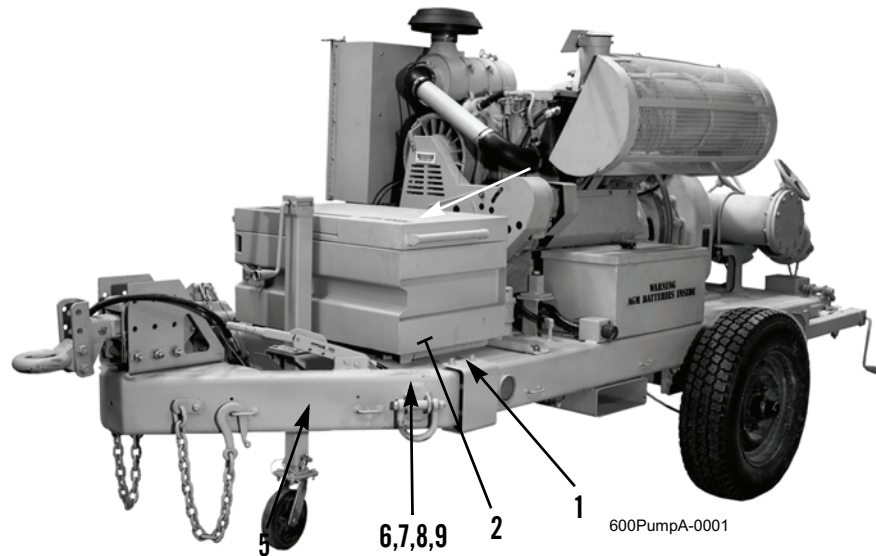

Figure 2. Drawbar.
1. Install lifting equipment on drawbar (Figure 2, Item 5).
2. Install drawbar (Figure 2, Item 5) on trailer frame (Figure 2, Item 1) with nine new washers (Figure 2, Item 6), new bolts (Figure 2, Item 7), new washers (Figure 2, Item 8), and new locknuts (Figure 2, Item 9).
3. Remove lifting equipment from drawbar (Figure 2, Item 5).
4. Install two cover plates (Figure 2, Item 2) on trailer frame (Figure 2, Item 1).